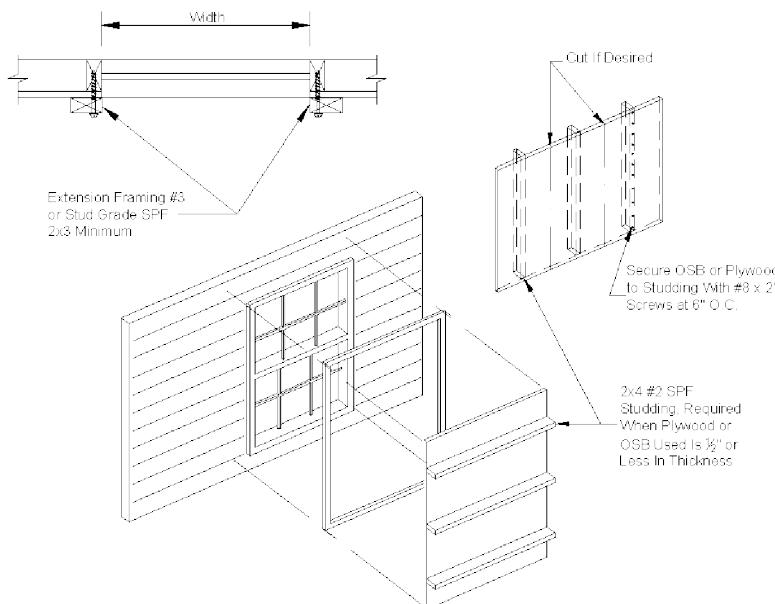

Figure 97. Wind protection shutter construction
If desired, prepare temporary protective window covers for use during severe windstorms and hurricanes according to **Figure 97, Table 29**, and the procedure below.
2. Assemble shutter panels as shown in **Figure 97**.